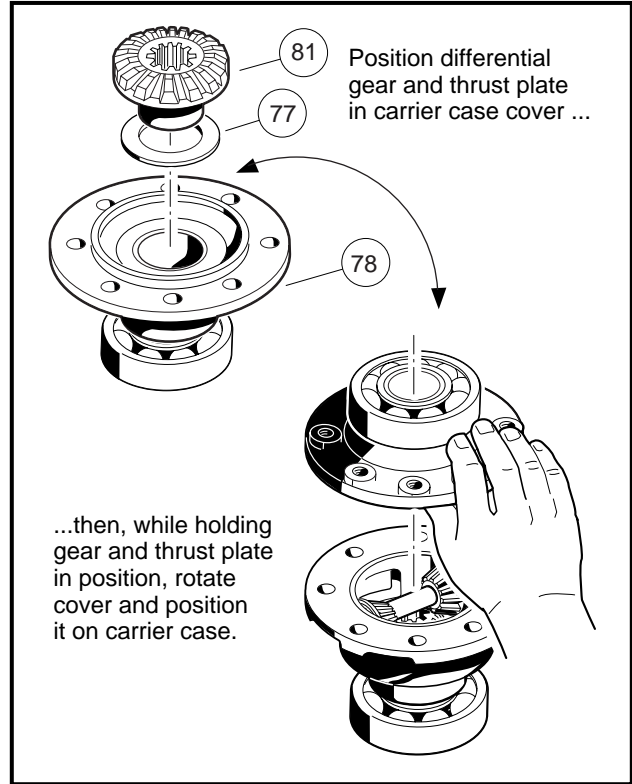

Figure 16-63 Carrier Case
5. Install the thrust plate (77) and differential gear (81) into the carrier case cover (78) as shown (**Figure 16-63, Page 16-28**). While holding the thrust plate and differential gear in place, position the carrier case cover on the carrier case (**Figure 16-63, Page 16-28**).